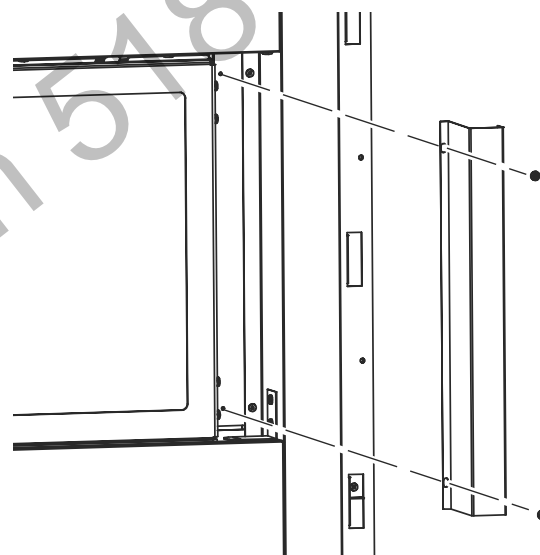

Figure 33 - Installing Side Face Filler for See-Thru Applications
1. Screw side face filler into firebox side baffle using 2 screws on both the left and right side as shown in Figure 33.